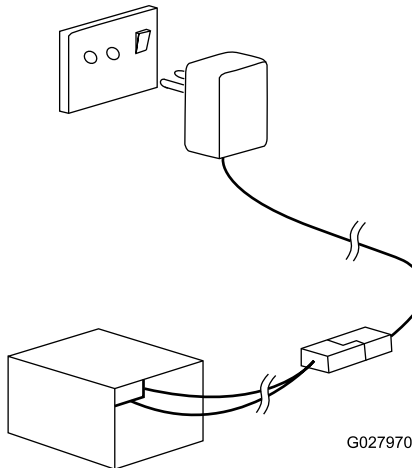

Figure 32
2. Plug the charger into a wall outlet (Figure 32).